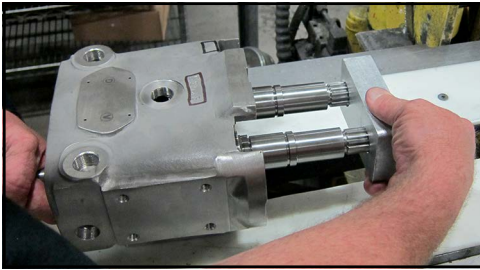

Figure 149 - Block shafts
1. Block the shafts from turning as shown in Figure 149.